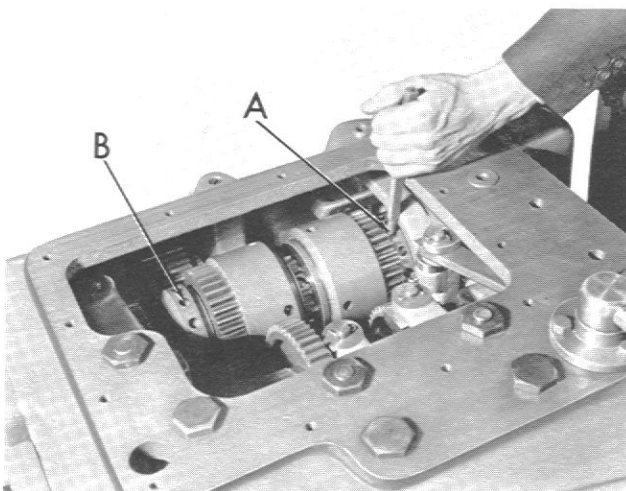

Figure 31 - Forward and Reverse Drive Clutch Adjustment
Round nuts A and B shown in figure 31 adjust the forward and reverse clutches respectively. Each nut turns on a threaded portion of the shaft. Locking holes pierce the outside of the adjusting nut. One of the four spring pins, in a collar keyed to the shaft, extends into a locking hole to lock the nut. The locking holes and the four spring locking pins are spaced for fine clutch adjustment. A slight turn of the nut in either direction, when unlocked, always aligns a locking hole with one of the spring pins.
2. Remove the top cover from the headstock (12 screws). (See key 18 and 19, plate 6.)
5. Turn the spindle by hand to rotate the clutch shaft until the engaged spring pin in the locking hole at A is accessible. (Refer to figure 31.)
Proceed as indicated under A with the following exceptions. In step 3, position the clutch lever in forward. In steps 6, 7 and 8, adjust nut B in place of nut A shown in figure 31.